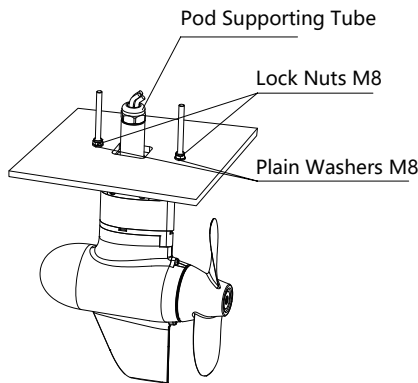

Figure 3-2
Step 2: Hold the pod motor and insert its two M8 bolts and supporting tube into the holes from below the hull bottom. Then lock the each M8 bolt from inside the boat by a plain washer and a nut (Figure 3-2).